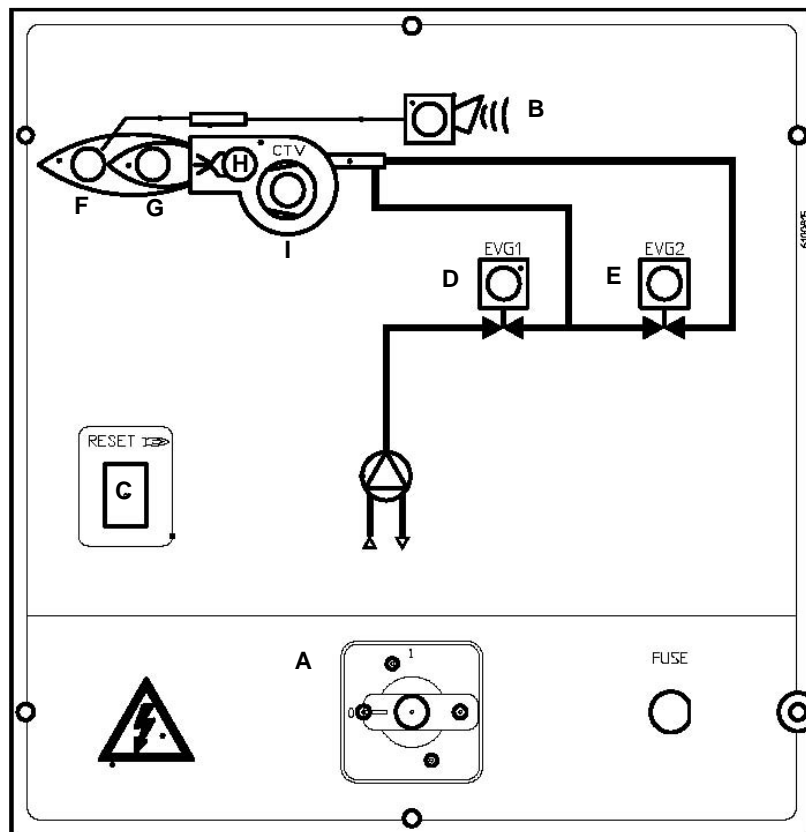

Fig. 6
- 2 Turn the burner on by means of its main switch **A** (Fig. 6): if the burner locks (LED **B** on in the control panel) press the RESET button (**C**) on the control panel (Fig. 6);